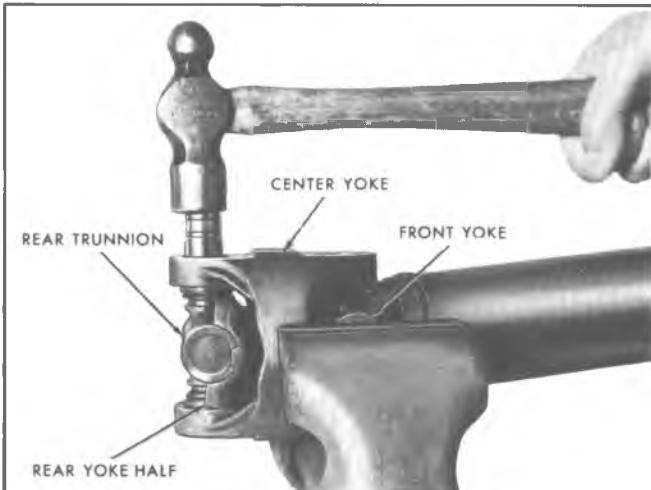

Fig. 30—Driving Out Bearing Cups
Four wheel drive models use a front propeller shaft incorporating a constant velocity joint, shown in figure 30.
3. Place propeller shaft in vice as shown in figure 30. Drive one rear trunnion bearing cap from center yoke as shown in figure 30 until it protrudes approximately $3/8''$.